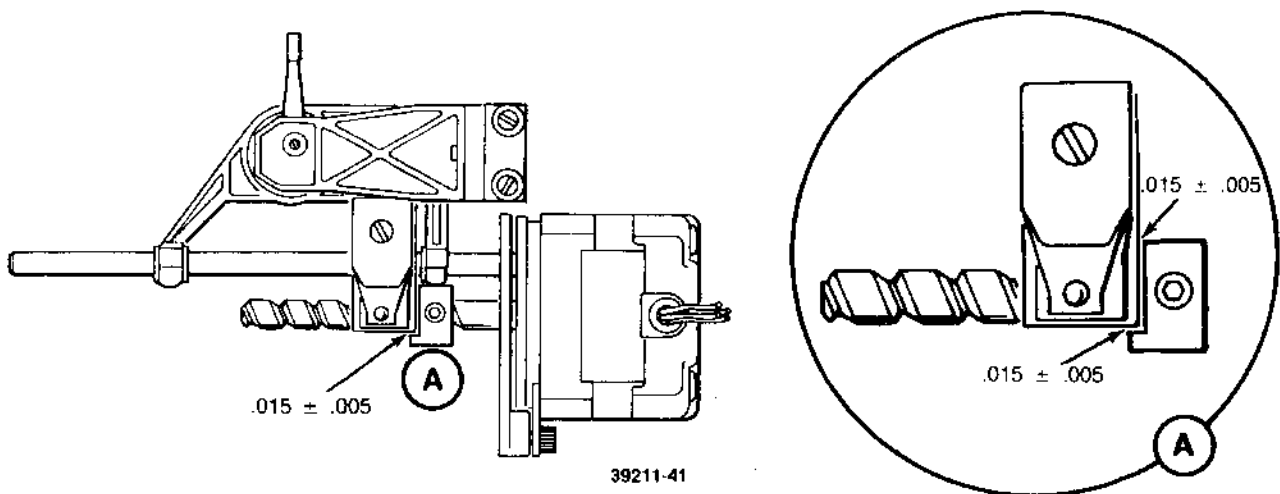

FIGURE 6-4. CARRIAGE LIMITER
- d. Adjust track 00 carriage limiter until there is 0.015 ± 0.005 inch between limiter and carriage assembly (see figure 6-4).